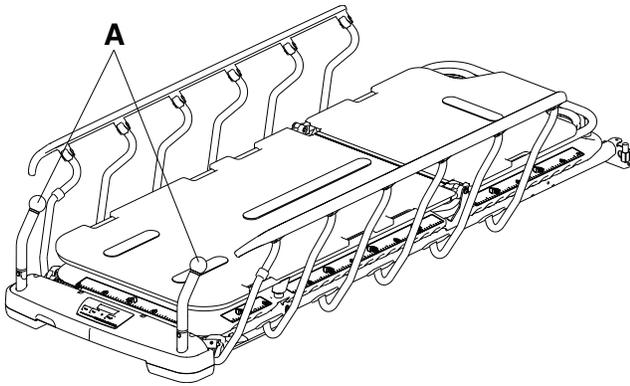

Figure 12 – Positioning the foot end push handles
1. Pivot the push handles (A) up from the foot end of the product (Figure 12).